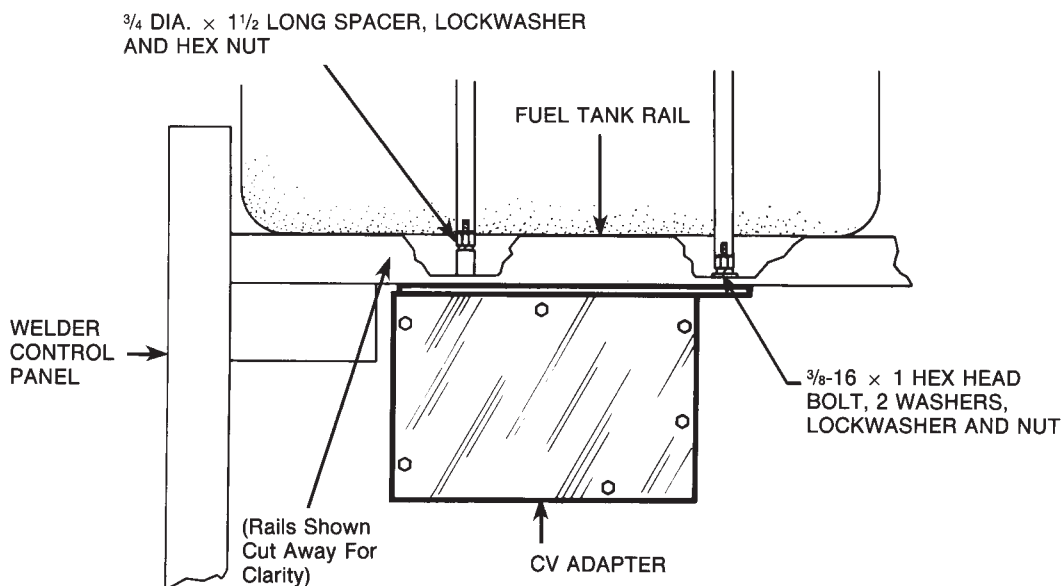

FIGURE 9 – CV Adapter Mounting (Side View).
3. Mount CV Adapter (unit with "SA" above code number) to the support holes. Use the one stud on the Adapter case, a spacer, lockwasher, and nut on one end and 3/8-16 x 1 hex head bolt and hardware on the other end as shown in Figure 9. In mounting the unit, be sure the fuel line and choke cable are not pinched.